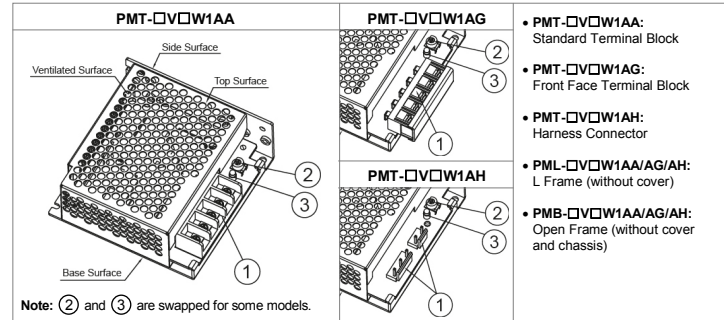

Fig. 1. Device Descriptions
For Open Frame type of installation, ensure the power supply's Protective Earthing (Marked "PE" in Fig. 5) point is connected to the system's Protective Earthing (PE). It is recommended that the input FG (Fig. 1 location ①) be connected to the system's PE.
Refer to Fig. 1.: